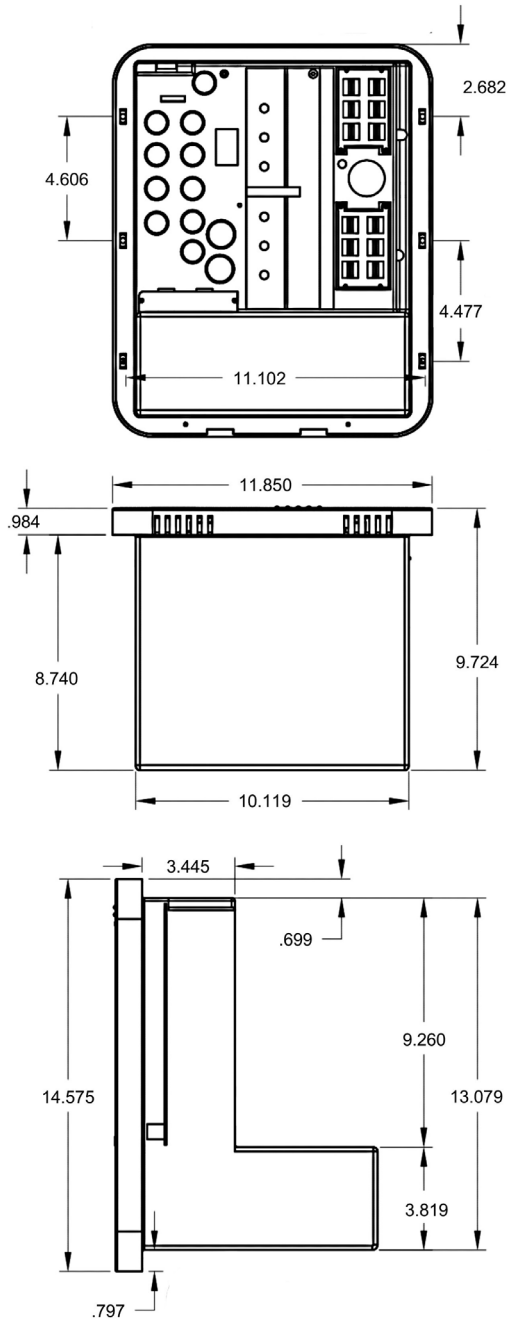

Figure 7
**** Make sure no AC power is coming into the RV from either the Shore Power cord or an on-board generator.** Determine the proper size breakers for the loads the WF-9500LiS Series will be powering. You can use either single or duplex breakers, or a combination of both. We recommend that all the breakers used be of the same brand. When using duplex style circuit breakers, a total of fourteen (14) breakers can be mounted in the WF-9500LiS Series Power Center, two (2) Main breakers and twelve (12) Branch breakers. Refer to the tables on pages 5 and 6 for a selection of approved breakers. The Main breaker should be a 2-pole, 50 Amp type and should be installed in the center position (See Figure 7 on page 13). A hold down clip is provided to keep the breaker securely in place.
The 50 Amp power cord is routed through the largest knockout in the wiring compartment and secured with a listed strain relief clamp. A 50 Amp power cord has 4 leads; Black (HOT1), Red (HOT2), Neutral (White), and Ground (Green). The Black (HOT1) wire is connected to one side of the 2-pole 50 Amp Main breaker as shown in Figure 7 on page 13. The Red (HOT2) is connected to the other side. The White (Neutral) wire is connected to the Neutral Terminal bar at the bottom left of the wiring compartment. The Green (Ground) wire is connected to the Ground Terminal bar located at the top left of the compartment.